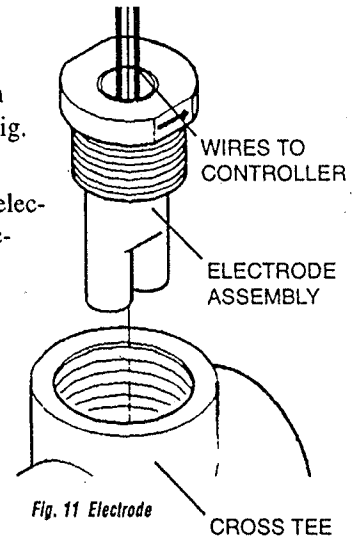

Fig. 11 Electrode
- 4) Unscrew electrode and remove electrode by pulling straight out. (See Fig. 11, Electrode)